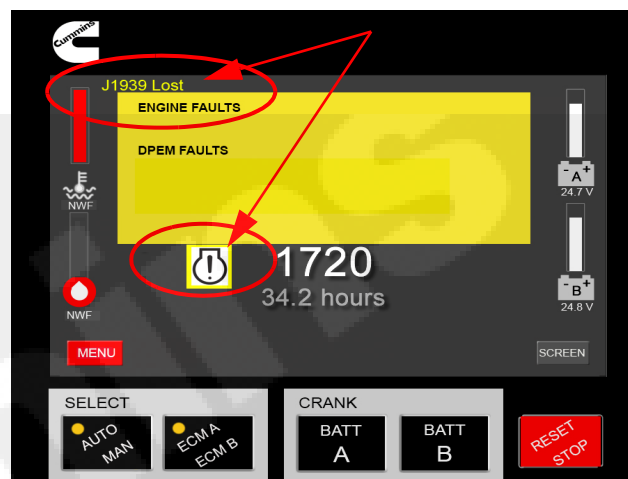

Figure 2-6 Loss of J1939 Communications
- **Communications have been lost with the ECM.** The FPDP communicates with electronically-controlled engines via J1939. As shown in Figure 2-6, if communications are lost, "J1939 Lost" will appear on the top left of the screen. The warning lamp will also illuminate and the text "NWF" (which stands for "Network Failure") will replace all digital J1939 values, except the tachometer, which will revert to using a mechanical speed sensor for engine speed detection.